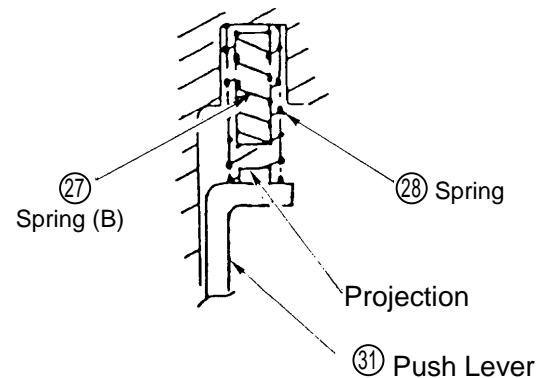

Fig. 16
- First, insert Spring (B) (27) inside the Spring (28). Next, confirm that the projection portion of the Pushing Lever (31) is properly installed into the Spring (28). (Refer to Fig. 16)
- When reassembling the Trigger (29), the D3 x 22 Roll Pin (30) can be easily inserted if the Pushing Lever (31) is pushed upward.
(2) Disassembly and Reassembly of Valve Bushing (C)
(42) and Related Parts :
- Ensure that Spring (B) ②⑦ is inserted into the Spring ②⑦. Then, confirm that the projection portion of the Pushing Lever ③① is properly installed into the Spring ②⑧. (Refer to Fig. 16)